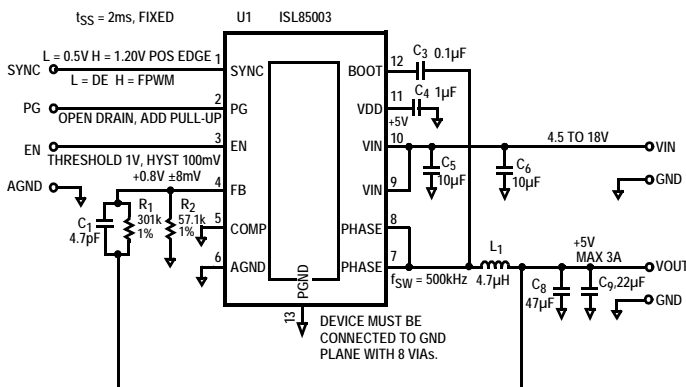

FIGURE 1A. ISL85003  $V_{IN}$  RANGE FROM 4.5V TO 18V,  $V_{OUT}$  = 5V AND INTERNAL COMPENSATION WITH EXTERNAL FREQUENCY SYNC
**TABLE 1. COMPONENTS SELECTION (Refer to Figures 1A and 1B)**